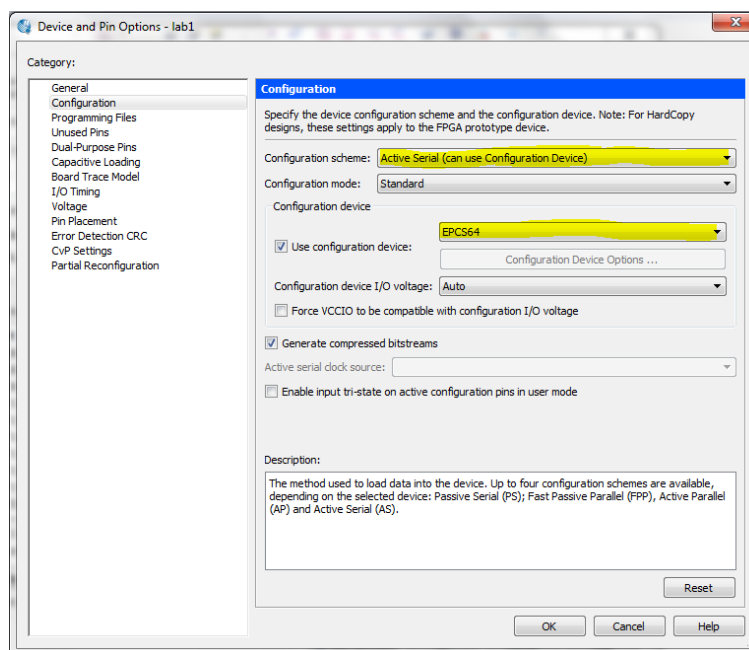

Figure 11: Active Serial Configuration Settings
- Before beginning this method you should first check that under **Assignments** → **Device** → **Device and Pin Options** are configured in the same way as shown in Figure 11. If not, you must set the configuration scheme to *Active Serial* and also set the configuration device to *EPCS64*. If this was not set you must recompile your hardware.